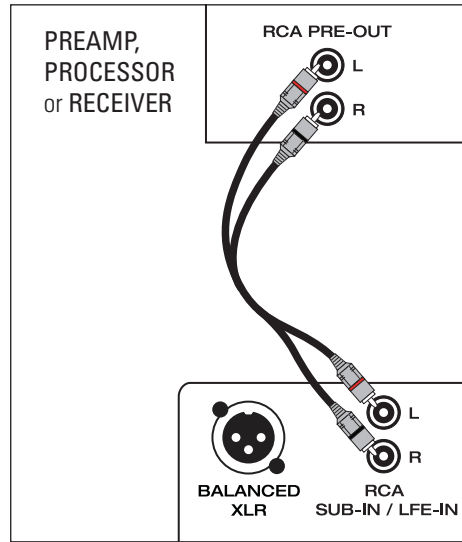

Fig. 4b
2. **Stereo Input (Left & Right)** connects from the Stereo Preamplifier, Stereo Receiver or other suitable line-level stereo source (Fig. 4b).